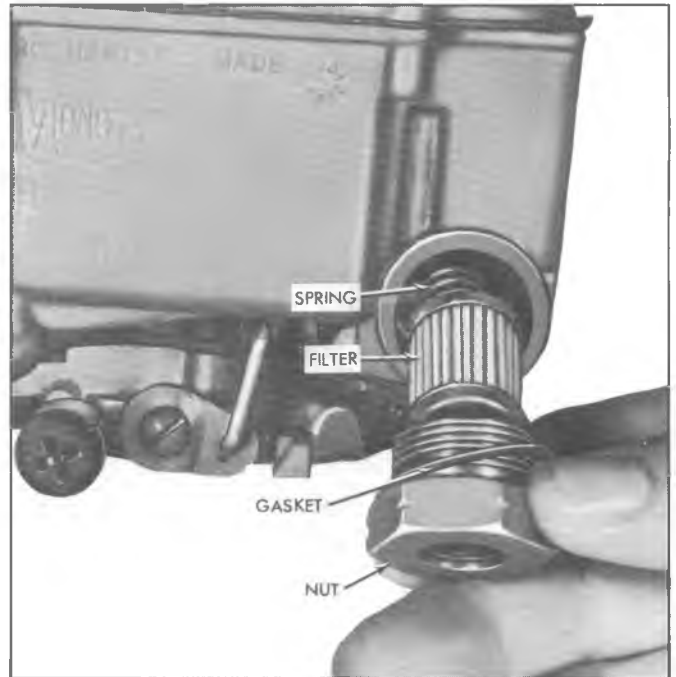

Fig. K4—Fuel Filter (Paper-Type) (Typical)
3. Remove filter element and spring (fig. K4).
The throttle control system is of the cable type. There are no throttle linkage adjustments, a reference between the bottom of the accelerator pedal roller and floor pan should be used only as a check for bent bracket assemblies. Check torque references in Figures K4 thru K12. Check for correct opening and closing positions by operating accelerator pedal in car. Cable routing attachment, carburetor positioning for proper assembly should